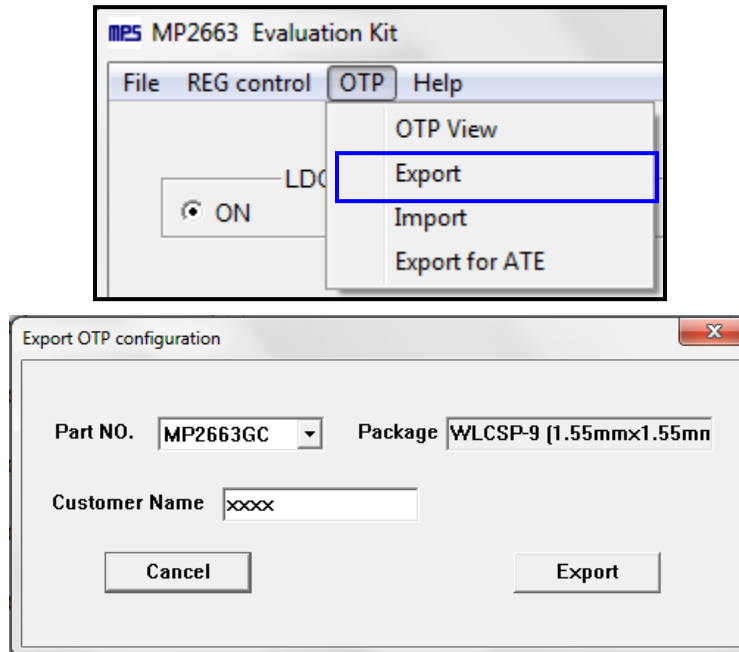

Figure 10: Select “Export”
5. Select values from the drop-down menus. Please make sure all the parameters are populated before selecting the EXPORT in the tool bar. Export the configuration by clicking EXPORT. (See Figure 10).